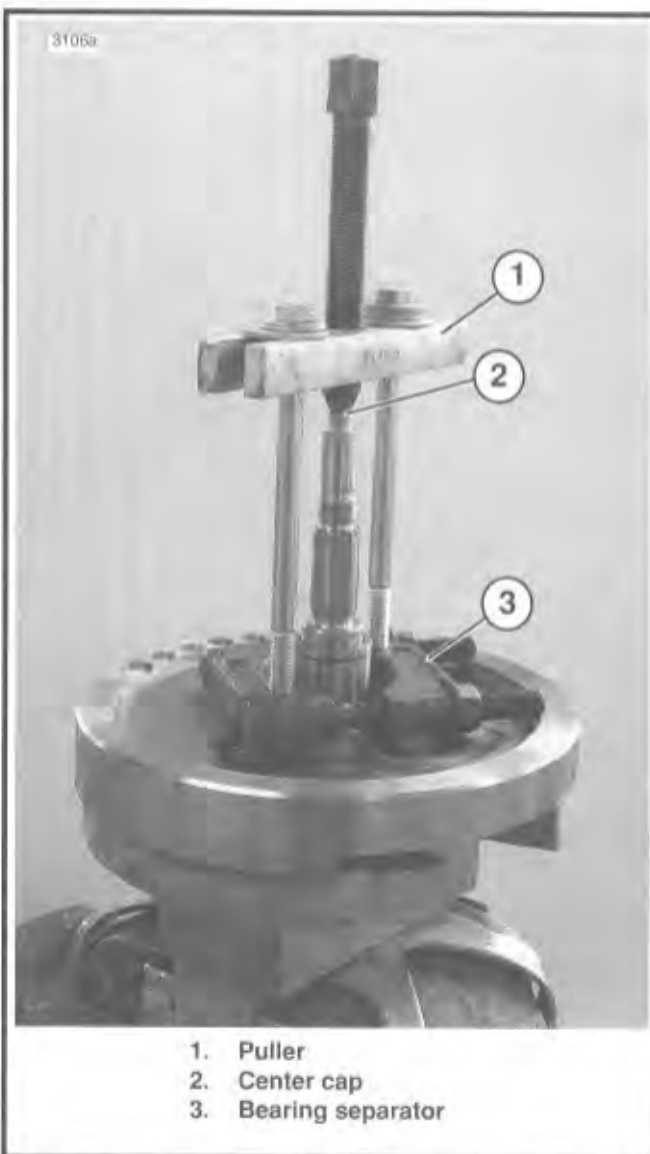

Figure 3-84. Pulling Pinion Shaft Inner Race
See Figure 3-84. To remove pinion shaft inner race, use PULLER (Part No. HD-97292-61), CENTER CAP (Part HD-95652-43A), and BEARING SEPARATOR (Snap-on Tools Stock No. CJ950). Apply heat to race to aid removal. Four sizes of pinion bearings are available.
10. See Figure 3-84. Pull inner race from pinion shaft using PULLER (Part No. HD-97292-61), CENTER CAP (Part No. HD-95652-43A), and BEARING SEPARATOR (Snap-on Tools Stock No. CJ950). Apply heat to race to aid removal.